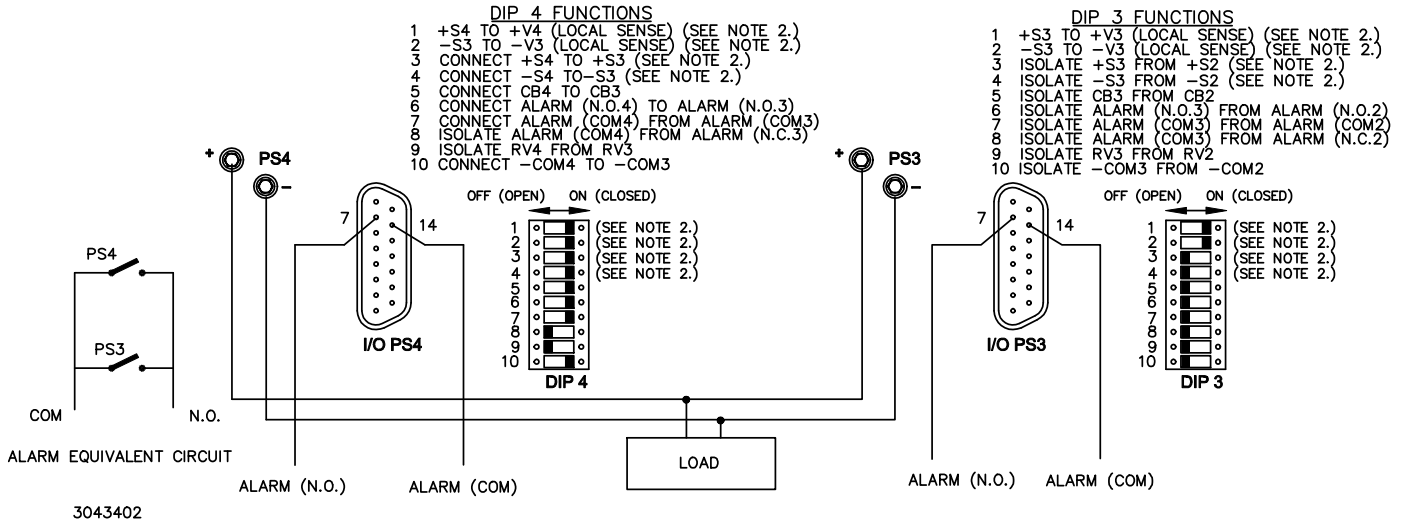

FIGURE 3. SLOTS 3 AND 4 CONFIGURED FOR PARALLEL OPERATION, WITH CLOSE ON FAIL ALARM CIRCUIT
Figure 3 shows HSF's in slots 3 and 4 connected in parallel with forced current sharing and a close-on-fail alarm circuit. Both HSF modules are configured for output voltage to be adjusted from the front panel trimpot (factory default setting). See Operator Manual for other output voltage adjustment options.
- Set position 5, to ON. This connects the current share bus (CB) for slots 4 and 3.
- Set positions 6 and 7 to ON. Position 6 connects the normally open ALARM (N.O.) lines and position 7 connects the ALARM (COM) (common) for slots 4 and 3, implementing a close-on-fail alarm circuit (see equivalent schematic shown in Figure 3. If either PS3 or PS4 fails, a contact closure provides continuity across pins 7 and 14 of both I/O 4 and I/O 3.
ALARMS. For independent configurations, Close on Fail contact closure is across I/O connector pins 7 (ALARM N.O.) and 14 (ALARM COM). Open on Fail circuits are across I/O connector pins 6 (ALARM N.C.) and 14 (ALARM COM). Figure 3 shows a parallel close-on-fail circuit for slots 3 and 4 using the DIP switches to make the connections. See Operator Manual for other options.